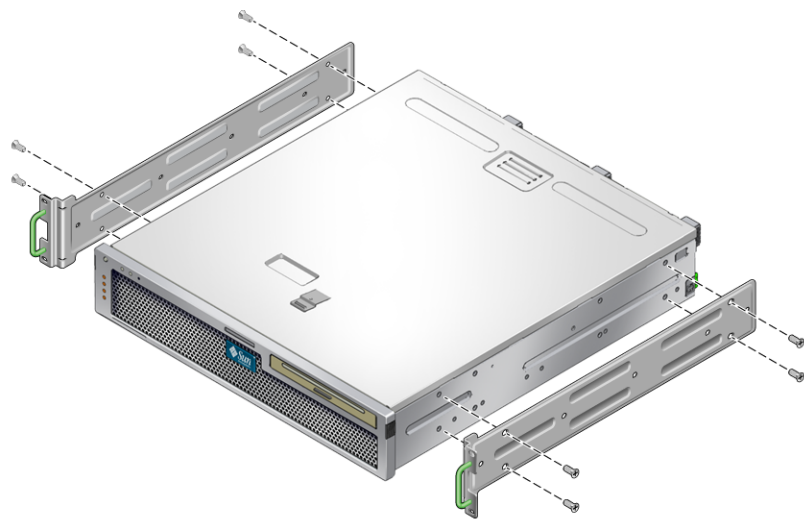

FIGURE 3-7 Securing the Hardmount Bracket to the Server
2. **Use four of the supplied M5 × 8 mm flathead Phillips screws to secure each of the hardmount brackets to the sides of the server (FIGURE 3-7).**